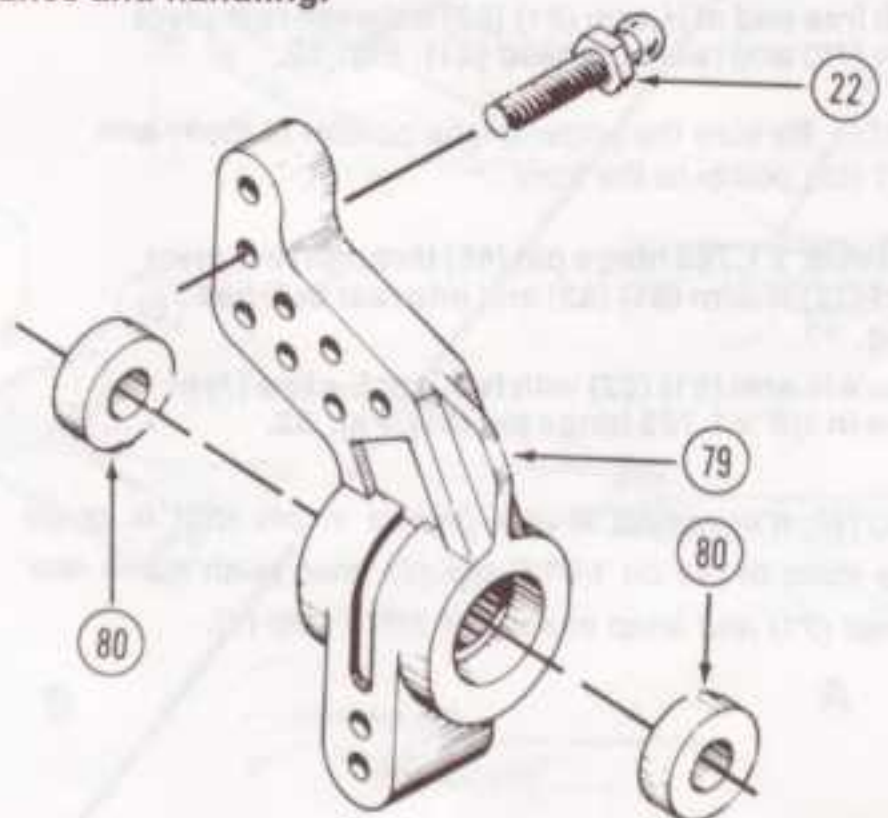

FIG. 30
1. Thread one 3/8" studded ball (22) from the front into center inside hole in hub carrier (79). Fig. 30.
2. Press two 3/16" x 3/8" bushings (80) into both sides of hub carrier (79). Fig. 30.